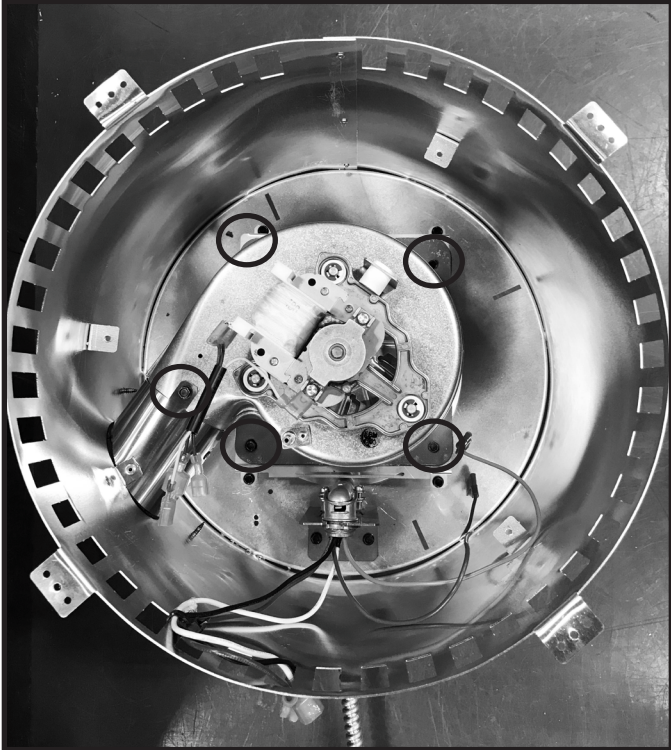

Figure 5.8
8. Remove the 4 screws holding the blower plate to the blower bracket assembly and the screw attached to the blower extension. See Figure 5.8.